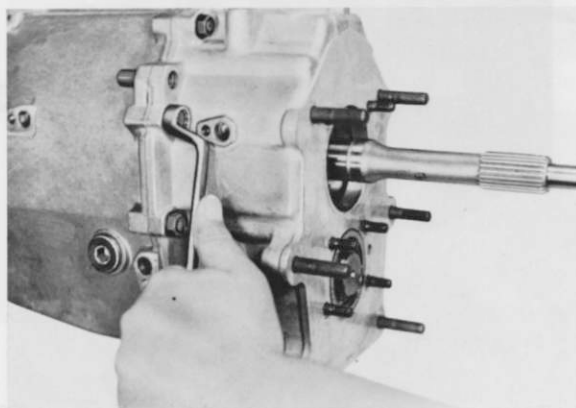

Fig. 13
6. Unscrew nuts (102) and turn cylindrical screws (Fig. 13).